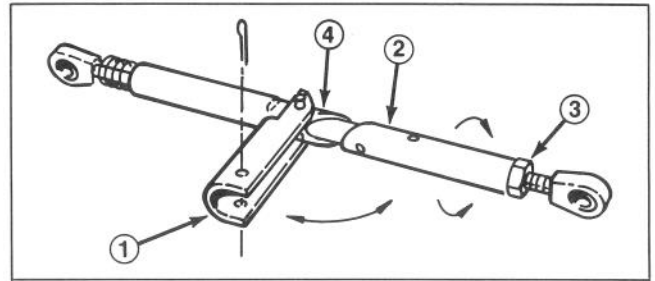

Figure 38
- A. Remove hair pin cotter and pivot belt tension rod handle outward (away from cutting unit) (Fig. 38).